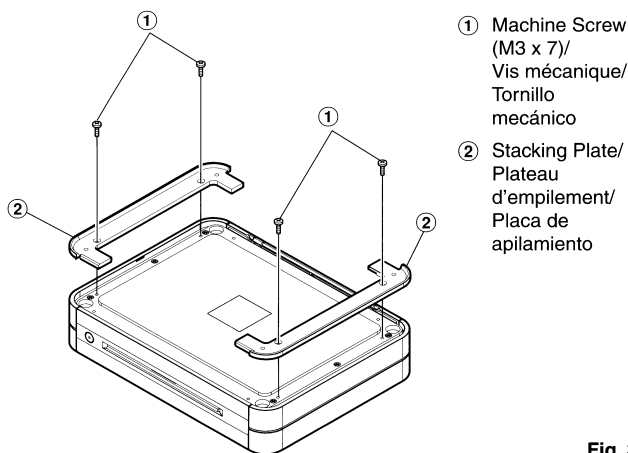

Fig. 3
2. Attach the Stacking Plates (*) on the first unit with Machine Screws M3 x 7(*). Refer to Fig. 3.